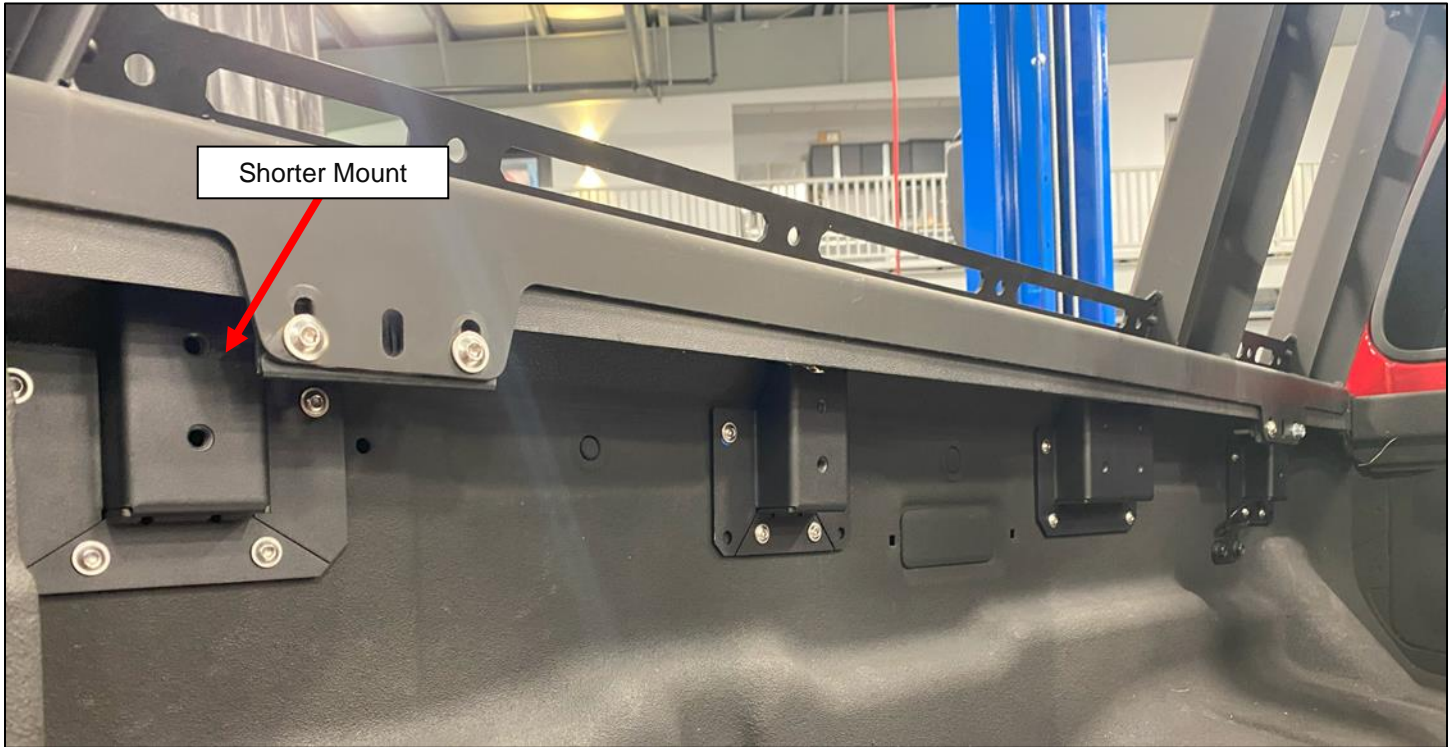

Figure 15
17. Locate (16) sixteen Button Head Screws. Secure each Mount to the Truck Bed and Plus Nuts with the Button Head Screws. Make sure to have the Shorter Mount located at the Rear of the Truck Bed. *Figure 15.*